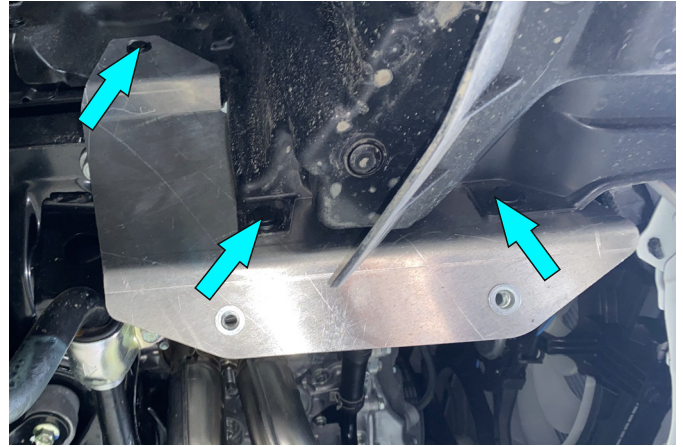

Fig. 2
2. Install right bracket (item 4), fix using OE plastic plugs (Fig.2).